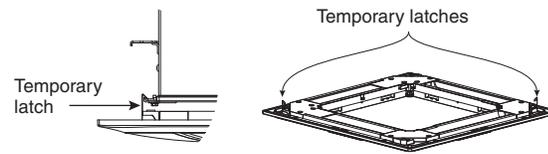

Fig. 3-44
(1) Hang the temporary latches on the inside of the ceiling panel to the receptacle on the unit to temporarily attach the ceiling panel in place. (Fig. 3-44)